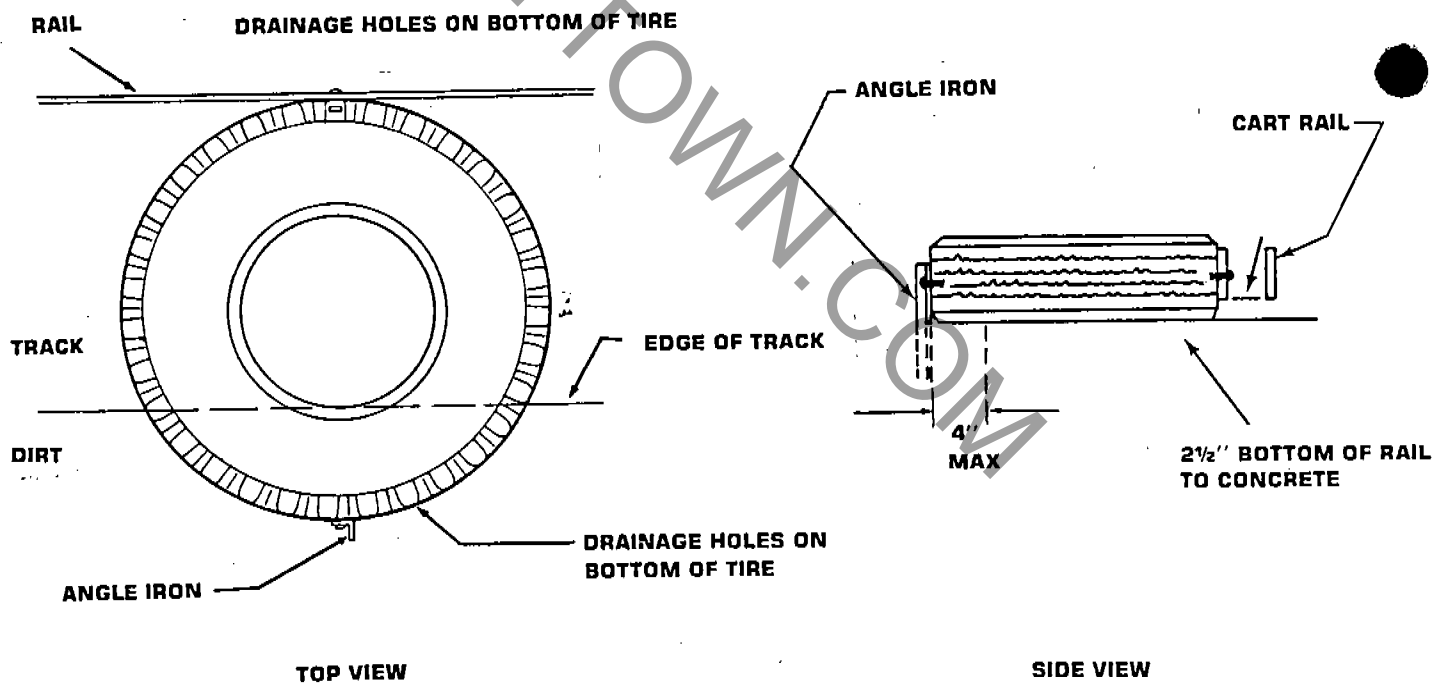

FIGURE 3: TIRE AND RAIL DETAIL
(See figure 3)
3. To mount the tires on the rail place 6 carriage bolts into the punched holes in a 20 ft. section of rail and lay flat on the concrete track with threaded side of bolt facing up. (Fig. 3 and 4.) Connect tires by forcing bolt through the drilled hole.
- After the rail is set in place and the correct amount of tire overhang is determined (figure 3), drive the angle iron for the rear tire support into place being careful to use a hole peg to keep the hole in the angle iron from closing (figure 6). Put a bolt through the angle iron and into the tire. Finish the connection using a fender washer and nut on the end of each bolt and tighten.